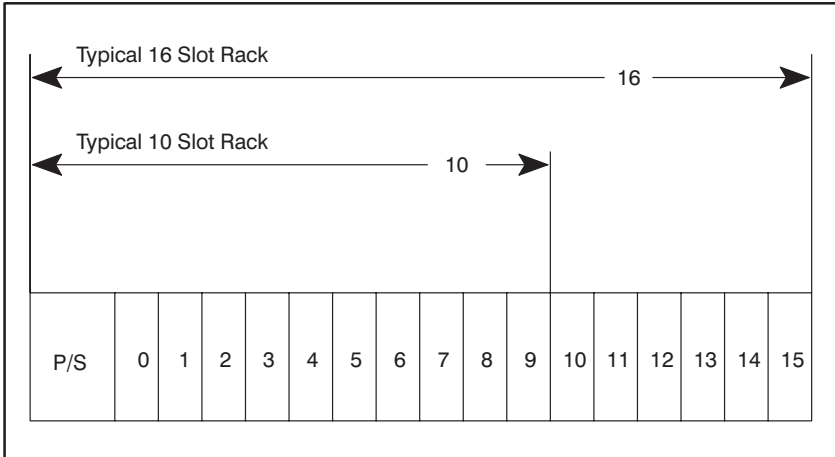

Figure 3.2 - Rack Slot Numbers
| Figure 3.2 | - Rack Slot Numbers | 3-2 |
- Step 5. Insert the module into the desired slot in the rack. The module will work only in a rack that contains a processor module. Do not attempt to use the module in a remote rack. Use a screwdriver to secure the module into the slot. Refer to figure 3.2.